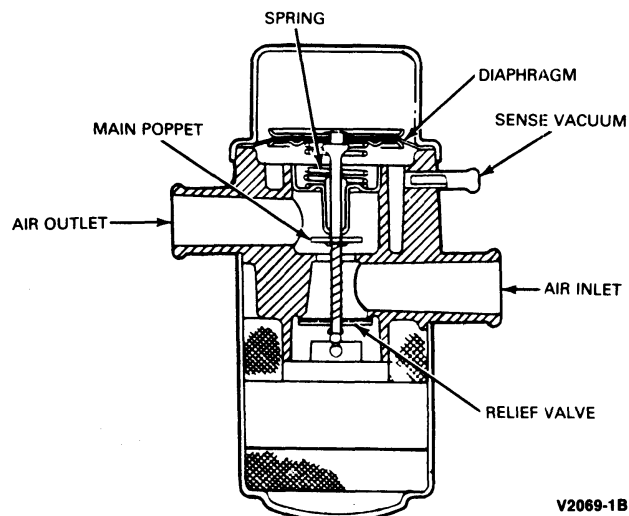
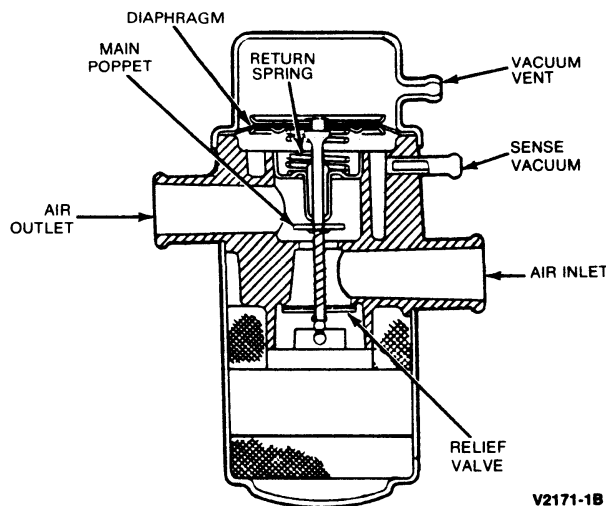

FIG. 4 Typical Air By-Pass Valve—Timed By-Pass Function
FIG. 6 Timed Air By-Pass Valve with Vacuum Vent—Remote Mounted
- Air by-pass valve (Figs. 4, 5 and 6)
The air by-pass valve (Fig. 4) prevents "backfiring" during engine deceleration when larger amounts of unburned gases flow into the exhaust manifold which can cause rapid burning when fed fresh air. To prevent this possible backfire condition, the by-pass valve momentarily diverts air from the pump to the atmosphere, preventing the mixing of fresh air with the unburned gases in the exhaust manifold.
During normal operation (Fig. 4), vacuum is equalized on both sides of the diaphragm. The return spring holds the valve open, thus allowing fresh air to flow to the air outlet.
During deceleration, however, the sudden rise of intake manifold vacuum under the diaphragm overcomes spring pressure and pulls the valve downward (Fig. 4). Air is then diverted to the atmosphere momentarily, and as vacuum is quickly equalized again on both sides of the diaphragm through a small orifice in the diaphragm, the valve returns to its original position. The valve also performs or relief function for air pump protection against high back pressure.
Functions as a "timed" valve until vented, (auxillary control), will continuously by-pass as long as signal vacuum is eight in. Hg. or more (Figs. 6 and 8), and vacuum is vented to the atmosphere. The same relief function is performed by the valve as in Fig. 4.